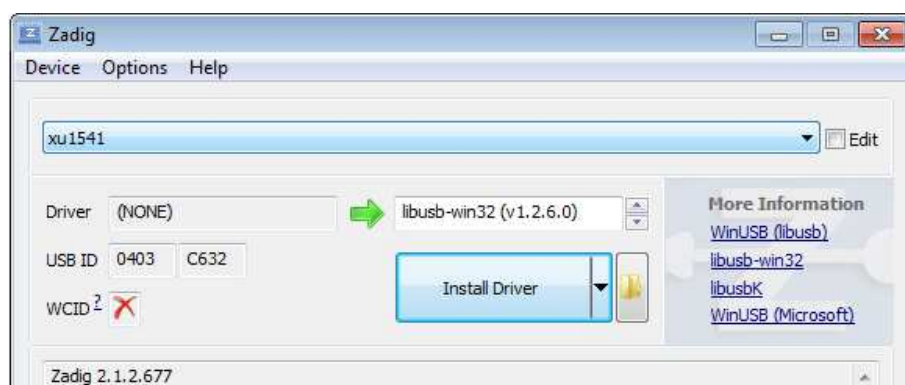

Figure 4: zadig settings for installing an xu1541 device
- **XU1541 only:** Make sure that zadig tells you it found the "xu1541", and that it wants to install the libusb-win32 driver. The USB id is 0403 (vendor) and C632 (product). Your screen should look like figure 4 ().